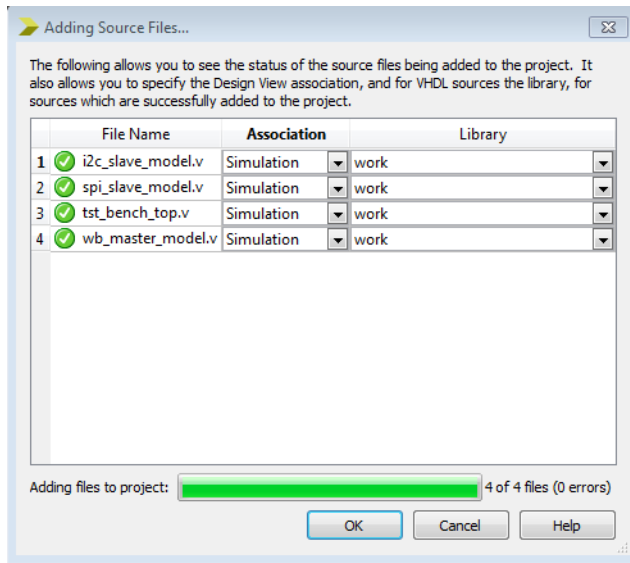

Figure 4-10 *Simulation Association*
- Next, change the Association to Simulation, as seen in Figure 4-10. This is extremely important. If you fail to do this nothing will work and the tool will try to synthesize your test bench, giving you multiple error messages. Then click OK.